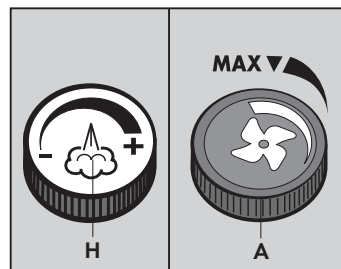

Fig. 11
(Fig. 11) Rotating the knob clockwise will increase the steam flow, rotating the knob anticlockwise will reduce the steam flow.
- Leave ON the Accessory switch (M), marked with the symbol , only;
- Press the blue switch (11) to activate the liquids vacuum feature.
- To adjust vacuum, operate the knob (A). Rotate the knob anticlockwise for powerful suction, and clockwise for weaker suction (**Fig. 11**).